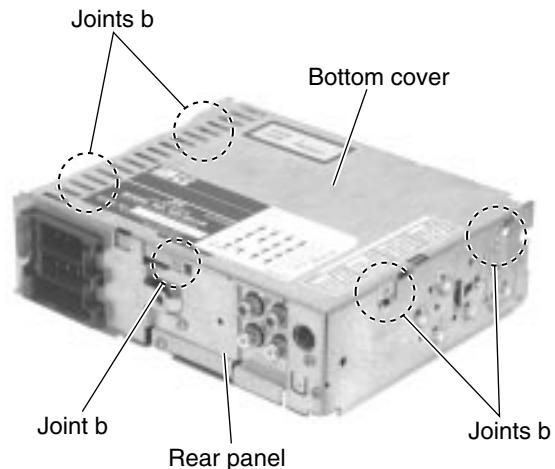

Fig.5
■Removing the bottom cover (See Fig.5 and 6)